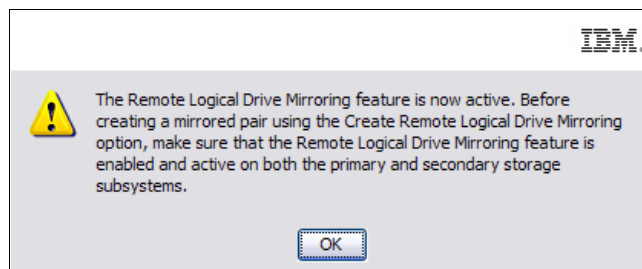

Figure 5-13 Activate Remote Mirroring wizard: Completed
5. The Activate Remote Mirroring wizard completed message is displayed as shown in Figure 5-13. Click **OK** to close the dialog box.